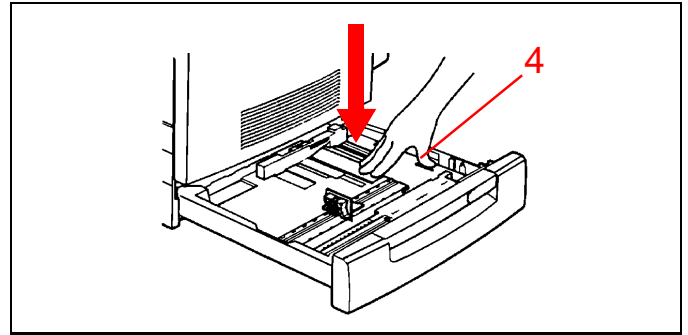

Figure 9
- See Figure 9. Press down on the metal plate until it latches.